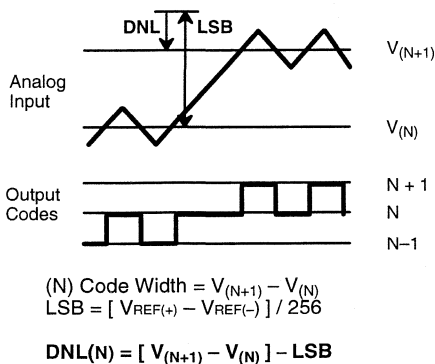
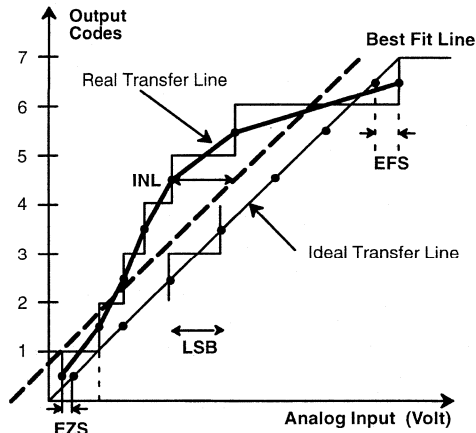

Figure 3. DNL Measurement
Figure 4. INL Error Calculation
- Tester measures code transitions by dithering the voltage of the analog input (V_{IN}). The difference between the measured and the ideal code width ($V_{REF}/256$) is the DNL error (Figure 3). The INL error is the maximum distance (in LSBs) from the best fit line to any transition voltage (Figure 4). Accuracy is a function of the sampling rate (F_S).
Figure 4. gives a visual definition of the INL error. The chart shows a 3 bit converter transfer curve with greatly exaggerated DNL errors to show the deviation of the real transfer curve from an ideal one.